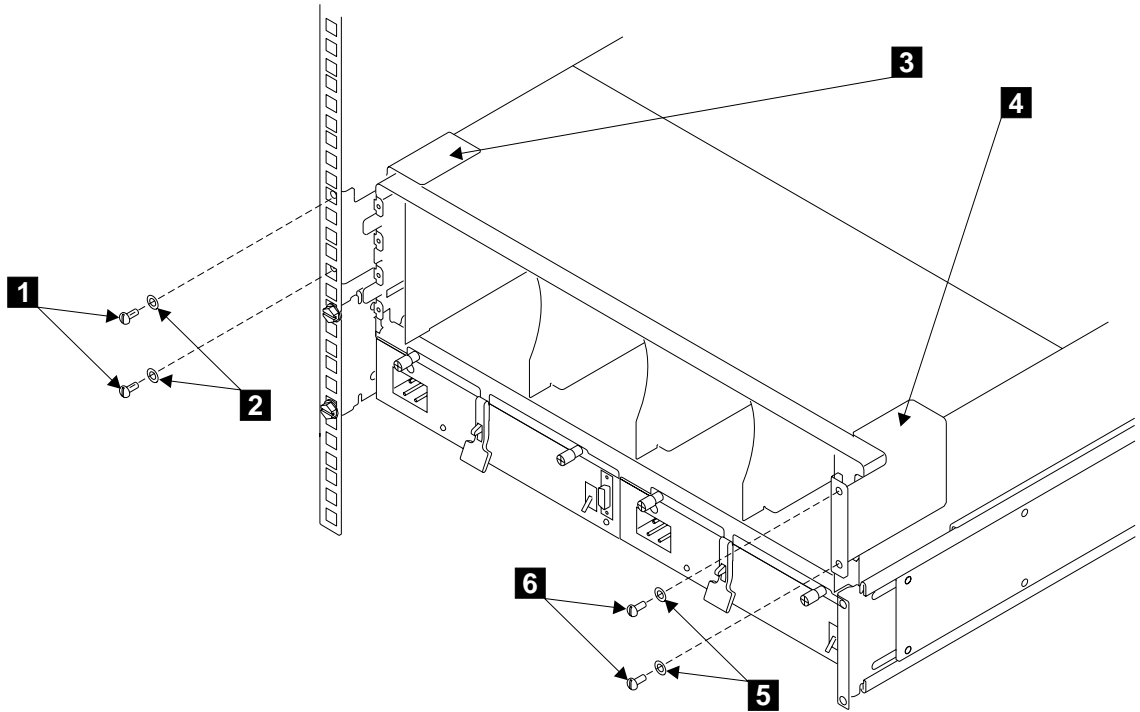

Figure 22. Installing the Back Brackets
Step 9. Refer to Figure 22.
- Step 10. At the back of the rack, place the right-hand back bracket **3** (now on your left) into position, as shown in Figure 22.
- Step 15. Place the other back bracket **4** into position, as shown in Figure 22.